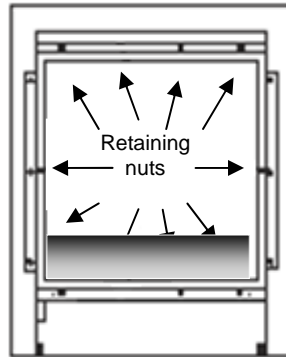

FIGURE. 30 GLASS FRAME RETAINING NUTS
1. Refit the glass panel/frame to the front of the appliance, taking care not to move any of the ceramic logs or coals. Secure glass in position using the previously removed nuts. (see FIGURE 30)